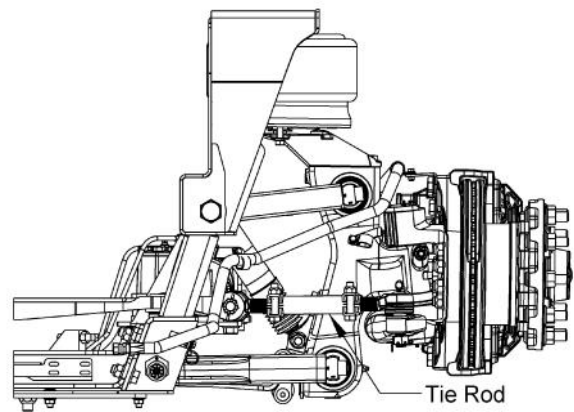

Figure 18 - Tie Rod Clamp Orientation
3. Adjust the length of both outer Tie Rods equally such that the toe-in on each side is $1/16'' \pm 1/32''$ and the overall toe-in is $1/8'' \pm 1/16''$. Tighten Tie Rod Clamp nuts to **50-60 Ft-Lb** (See Torque Table). Clamp bolts need to be on the rear, head down, with the nut on the top side of the clamp. Insure clamps are installed within 1/16'' from end of Tie Rod Tube. Refer to **Figure 18** for Tie Rod Clamp orientation.